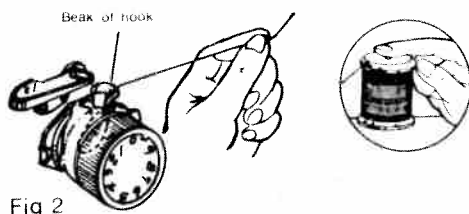

Fig 2
(Fig. 2)
2. Holding the spool with the right hand, pull the thread through the tension discs. The spring wire loop should be pulled up until the thread passes beyond the beak of the hook. Fig. 2.